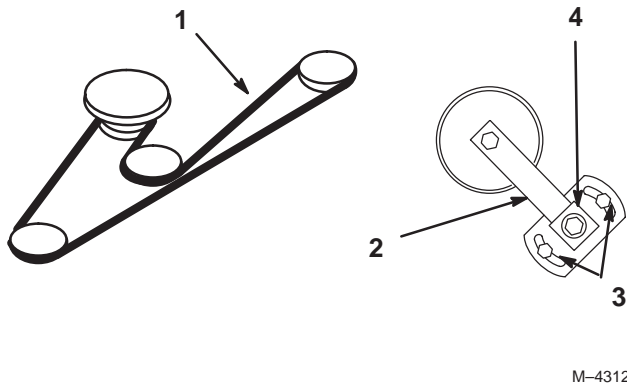

Figure 65
3. Loosen both nuts securing idler plate and move the idler arm to relieve belt tension on the idler pulley, then remove the worn deck belt (Fig. 65).
4. Install the new deck belt around the spindle pulleys, belt guide, the idler pulley, and in the lower groove of the center spindle pulley (Fig. 65).